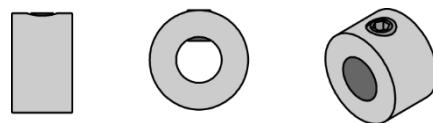

Figure 19: 6mm Shaft Collar
Shaft collars are used to prevent lateral (sideways/sliding) movement of a shaft, or an item on the shaft. A shaft collar is a hollow cylinder with one or more set screws which tighten towards its center and an inner dimension (ID) that is just slightly larger than the shaft it is being used on (Figure 19). Since shaft collars are used to prevent lateral shaft movement they are often used in place of shaft spacers.
Product material selection is noted in Figure 19. Traction wheels are co-molded with a polyurethane tread for increased traction.